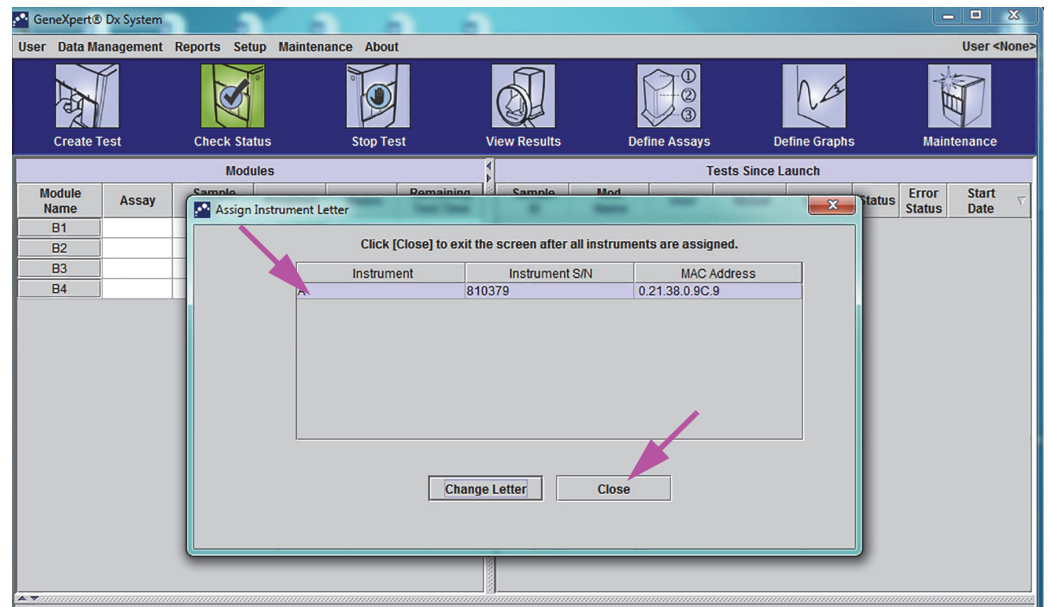

Figure 2-30. GeneXpert Dx System Window with Assign Instrument Letter Dialog Box Overlay
7. Click **Close** to close the Assign Instrument Letter dialog box (see Figure 2-30). The Assign Instrument Letter dialog box will indicate the new instrument letter assignment for the modules.